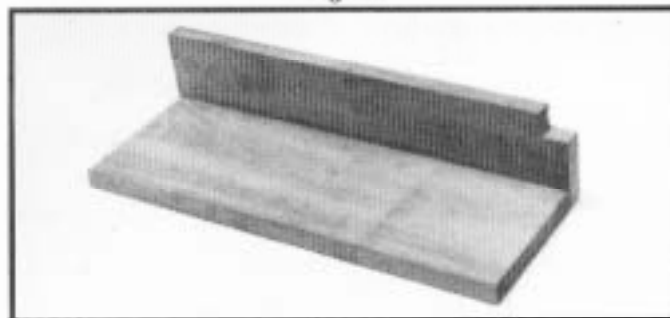

Fig. 67
2. Fig. 67, illustrates the fence and table support assembled.